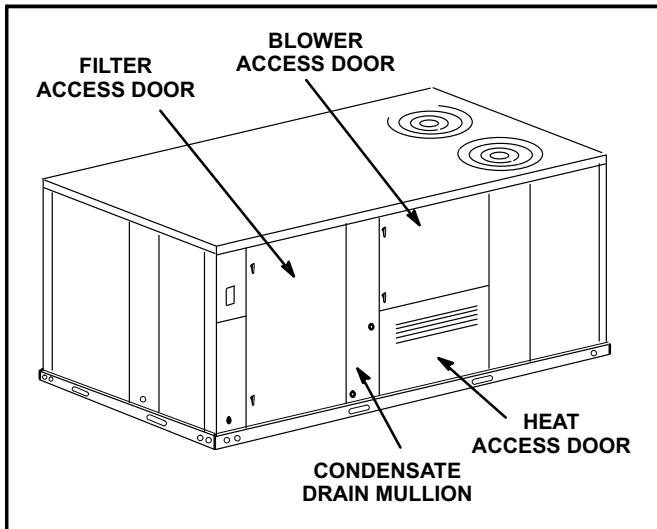

FIGURE 5
1- Open blower and heat access doors. See figure 5.
- 1- Open blower and heat access doors. See figure 5.